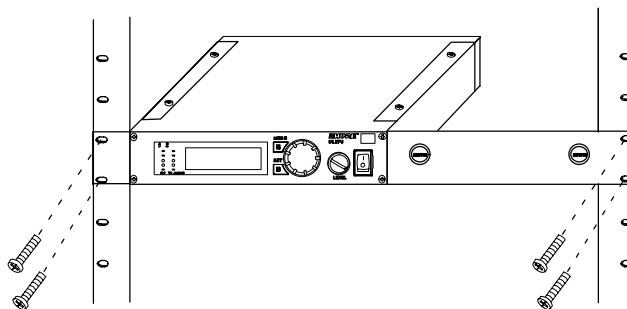

FIGURE 50
2. Place the supplied straddle bars in the recesses on the top and bottom of the receivers, so that the bars overlap both receivers. Refer to Figure 50.